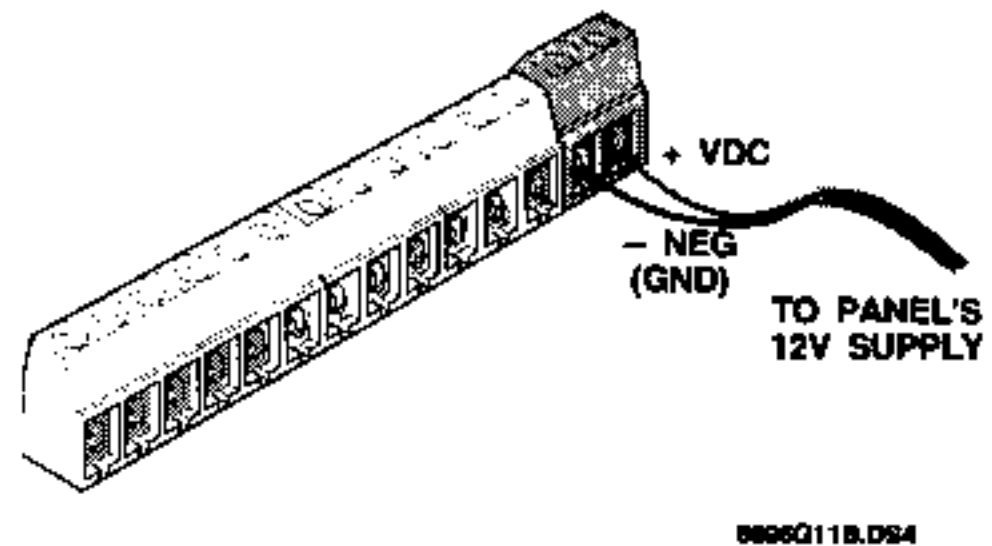

Figure 8. Connecting Panel Power to the Receiver
- 2) Wire receiver terminals (**GND**) and (**+12V**) to a non-switched 12V supply output on the control panel. Make sure you observe the correct polarity (see Figure 8).